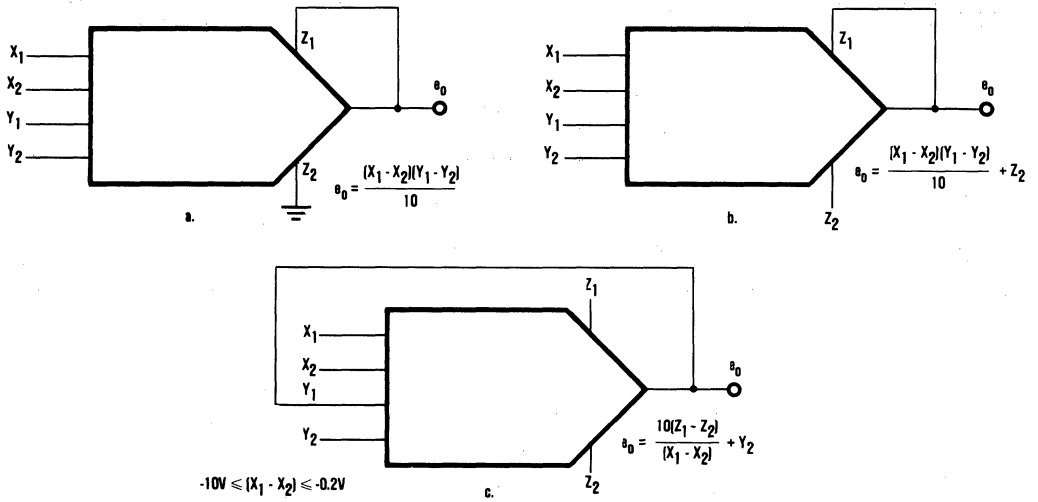

FIGURE 2. Transfer Functions.
3.3.2 Transfer functions. The transfer functions for multiplier and divider connections are shown in Figure 2.